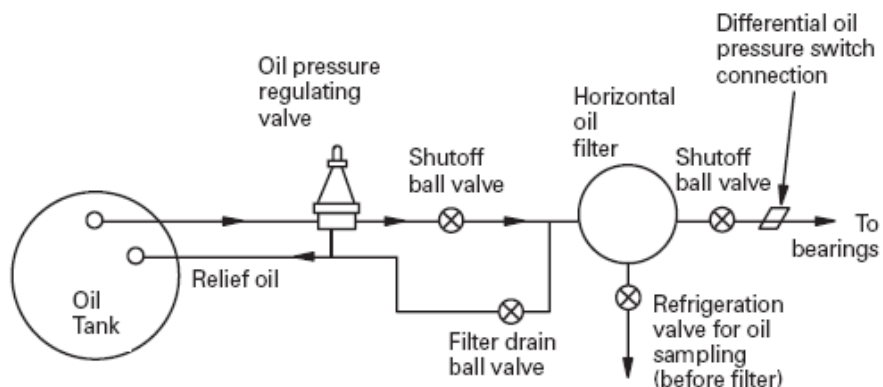

Figure 4. Oil System Schematic For CenTraVac Chillers
1. A refrigerant angle valve is provided on all new CenTraVac® chillers to allow an oil sample to be taken. This valve, located just upstream of the oil filter, provides non-filtered oil for analysis. Do not use the oil drain valve located on the bottom of the oil tank to take a sample. On older machines, where a sampling valve is not present, one should be installed before the oil filter. Make sure the valve seat material is compatible with refrigerant being used, Figure 4.
For older units without isolation valves, install refrigerant ball valves and relocate the oil filter (spin-on type only) to the horizontal position, Figure 4 on page 15. Trane Service Bulletin CTV-SB-19D has more details about this change.